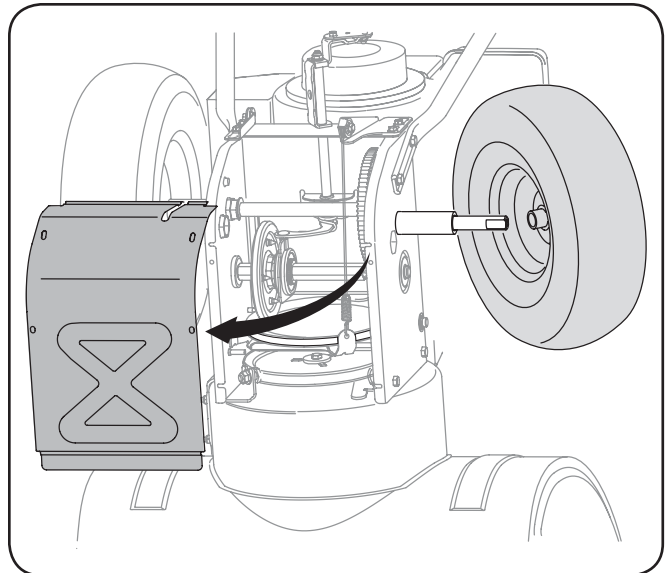

Fig. 7-8
- Remove the frame cover from the underside of the snow thrower by removing the self-tapping screws which secure it. See Fig. 7-8.
- Remove the frame cover from the underside of the snow thrower by removing the self-tapping screws which secure it. Remove the right-hand wheel by removing the screw and bell washer which secure it to the axle. See Fig. 7-8.